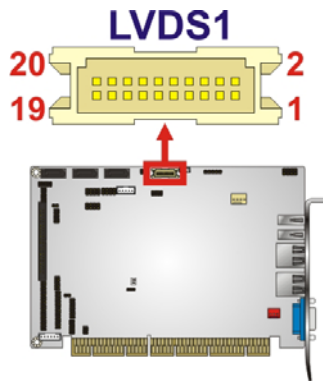

Figure 3-15: LVDS LCD Connector Location
- CN Location:** See **Figure 3-15**